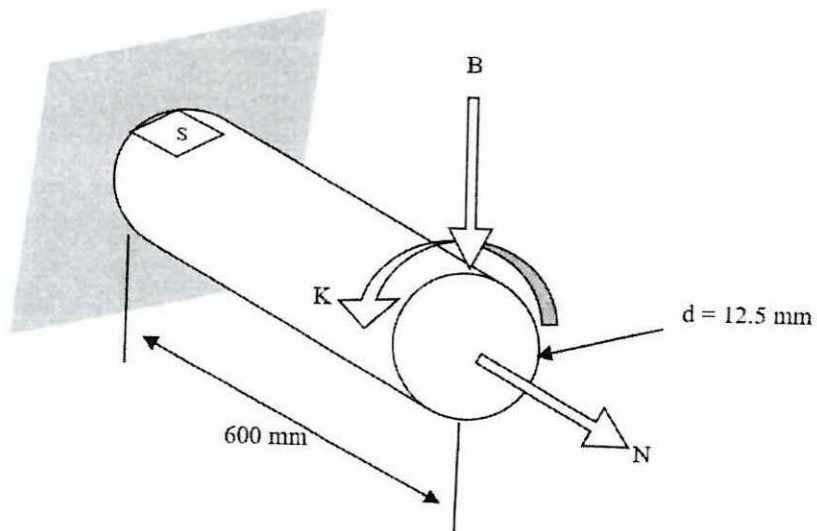

Figure Q6(b)
- Q6** (a) Names **two (2)** common methods that can be used to determine the transformation of stress in plane stress. (2 marks)
- (b) A steel rod is being loaded with forces as illustrated in **Figure Q6(b)**. The diameter of the rod is 12.5 mm, and its length is 600 mm. Considering the value of force K, B and N are 5 kNm, 10 kN and 35 kN respectively.